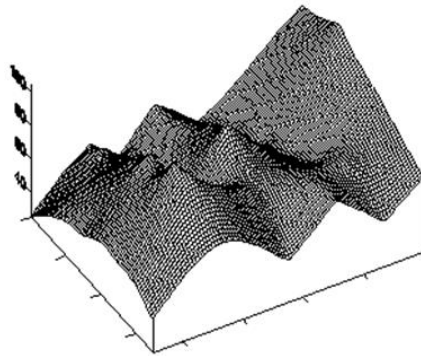

Figure 1.141 – The Z-scale on the wireframe map was changed to reflect the exaggeration in the Z-dimension
4. Click OK and the wireframe is redrawn exaggerated in the Z dimension, fig. 1.141.